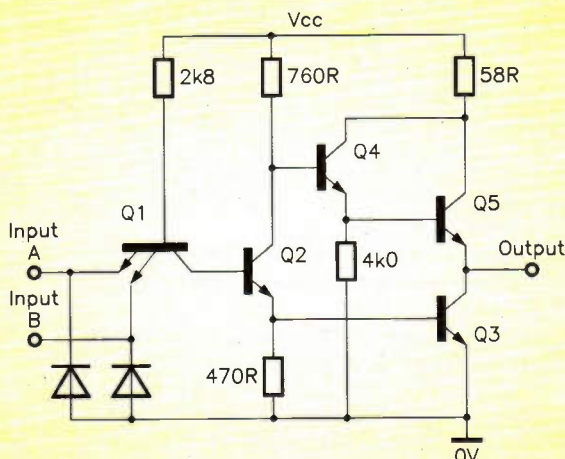

Figure 3. Circuit of a high-speed (H) TTL 74H00 2-input NAND gate.
High-speed (H) TTL (now obsolete). A modified version of the standard type, with its resistance values reduced to give an increase in speed at the expense of increased power consumption. Figure 3 shows the circuit of a 74H00 2-input NAND gate; its power consumption is 22mW, and its propagation delay is typically 6ns.